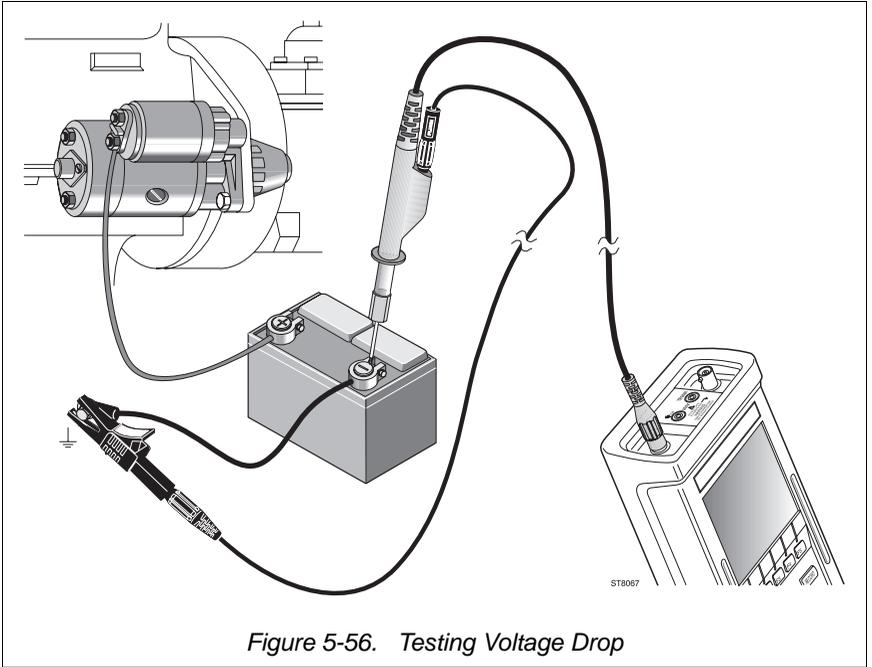

Figure 5-56. Testing Voltage Drop
- 4 Connect the test leads as displayed by the test tool's Connection Help and shown in Figure 5-56.